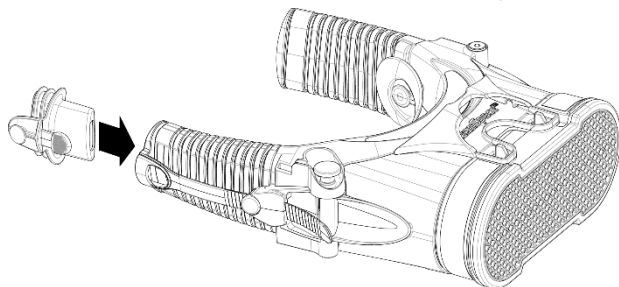

Figure 17 - Flow Test
2. Fit the yellow Flow Test Cap to the left bellow. See Figure 17.